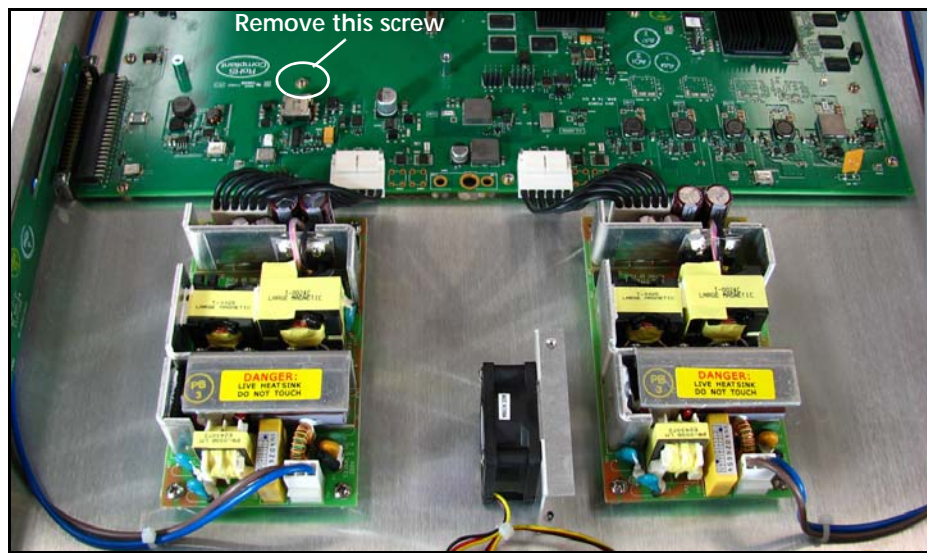

Figure C-3. Removal of Mounting Screw
- 2 Remove the main board mounting screw located behind the left power supply, as shown in Figure C-3.